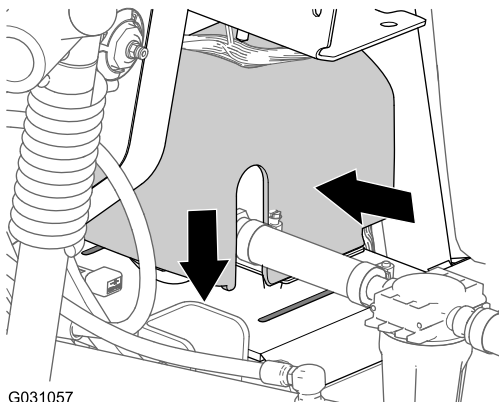

Figure 239
2. Align the rinse-pump cover over saddle plate for the rinse pump (Figure 239).
3. Press together the sides of the rinse-pump cover and align the tabs of the cover with the saddle plate (Figure 239).
4. Insert the tabs into the slots and release the sides of the cover (Figure 239).